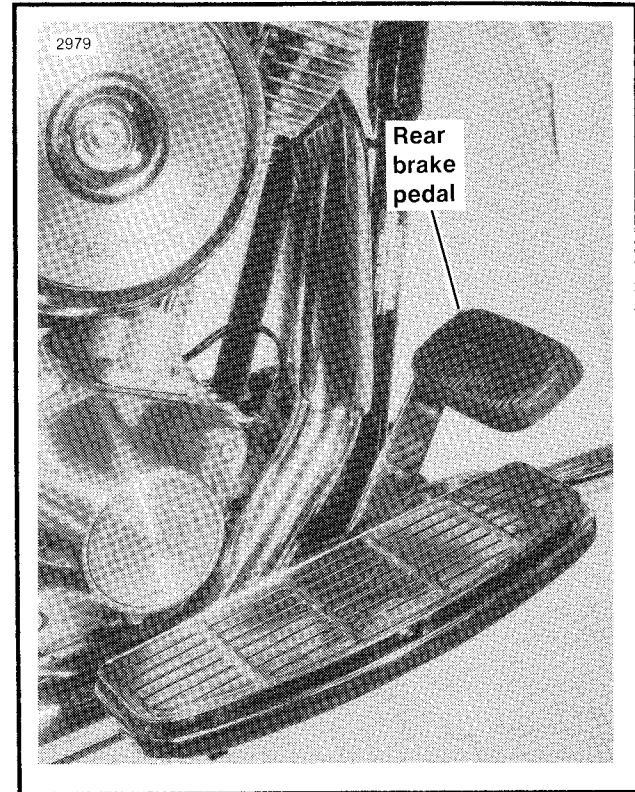
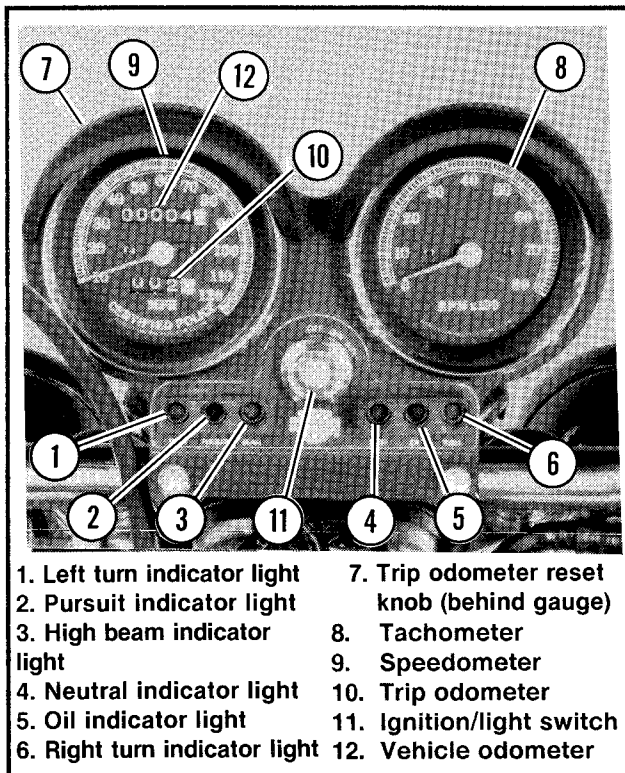

Figure 6. Rear Brake Pedal - FLHTP
Figure 9, Indicator Light and Gauges - FXRP (Fairing)
See Figures 6, 7. The brake pedal controls the rear wheel brake and is located on the right side where it is operated by the right foot. See Figure 9. The brake hand lever (10) controls the front wheel brake and is located on the right handlebar, where it is operated by the fingers of the right hand.